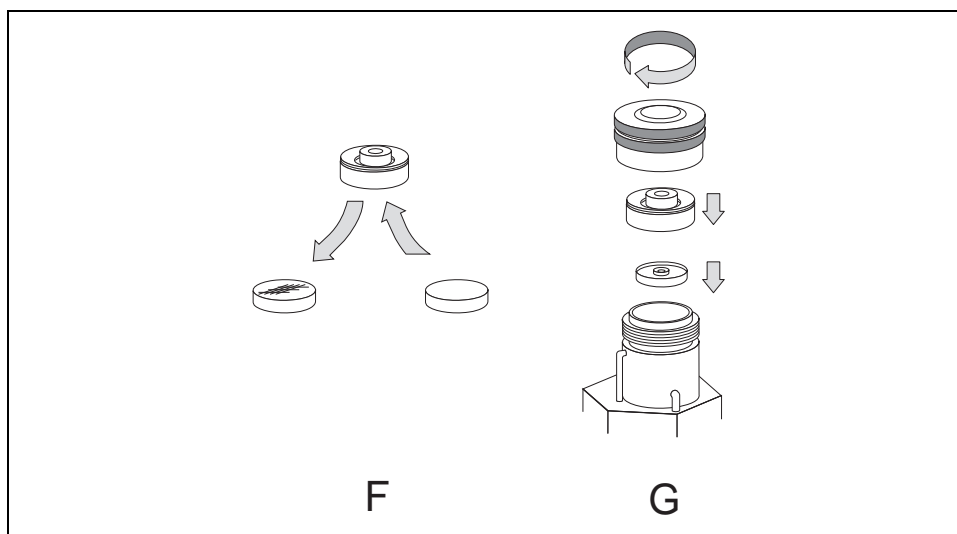

Figure 15-5. Replace and Clean the Liner (3)
12. Insert a new septum into the septum holder paying attention that the center guide of the septum must be turned upward. See F of Figure 15-5.
14. Place the septum holder on the top of the septum support (see G of Figure 15-5).